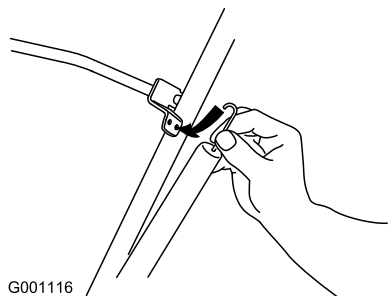

Figure 4
- Hook the end of the control cable spring into the bottom hole of the control bar (Figure 4).